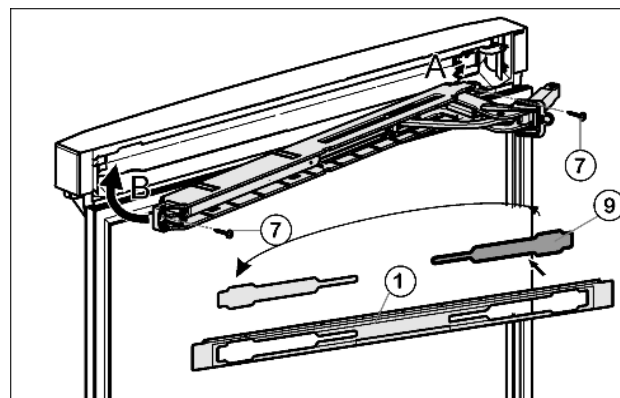

Fig. 25
- ▶ Loosen cover Fig. 25 (9) from the panel Fig. 25 (1) and insert on the other side.
- ▶ With the hinge of the upper soft stop unit facing the door hinge side, engage the soft stop unit (A) and swivel inwards (B).
- ▶ Tighten soft stop unit (2 x Torx 15) Fig. 25 (7).